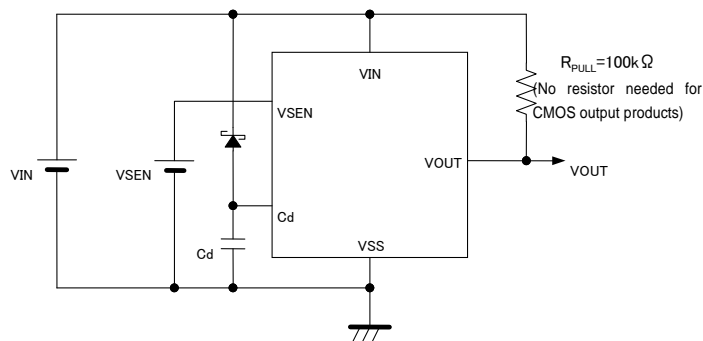

Figure 3: Circuit example with the delay capacitance pin (Cd) connected to a Schottky barrier diode
6. When there is a possibility of which the power supply input pin voltage falls rapidly (e.g.: 6.0V to 0V) at release operation with the delay capacitance pin (Cd) connected to a capacitor, use a Schottky barrier diode connected between the VIN pin and the Cd pin as the Figure 3 shown below.